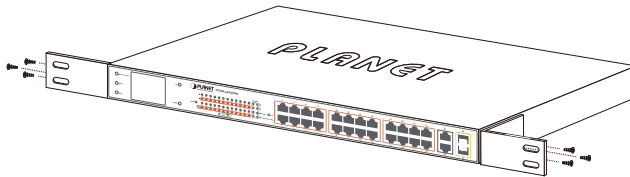

Figure 3-2: Attaching the Brackets to the LCD Switch
- Step 2:** Attach a rack-mount bracket to each side of the LCD switch with supplied screws attached to the package. Figure 3-2 shows how to attach brackets to one side of the LCD switch.